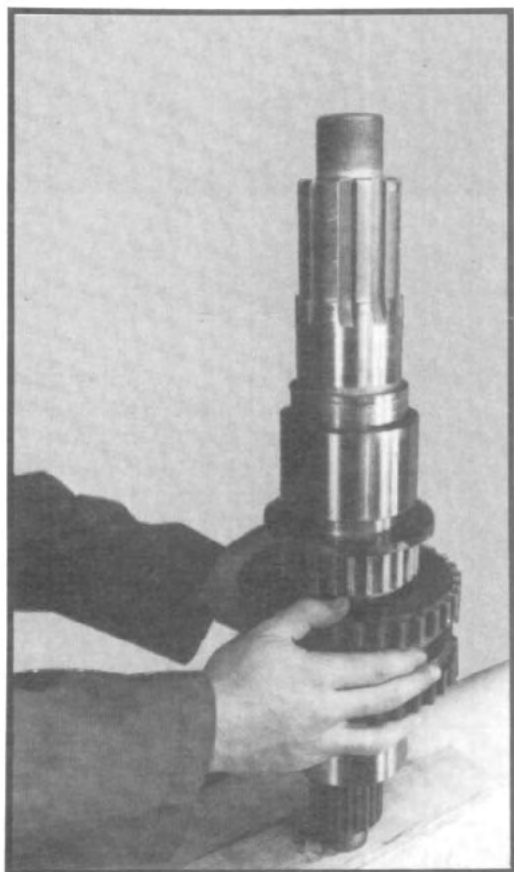

Fig. 39
1.14 If necessary to remove the needle bearing inner races and thrust rings from the shaft, place the shaft vertically on a table and tap the clutch gear on the thrust washer. This procedure will push the inner race off the shaft. Repeat this operation for the opposite side. (See fig. 39.)